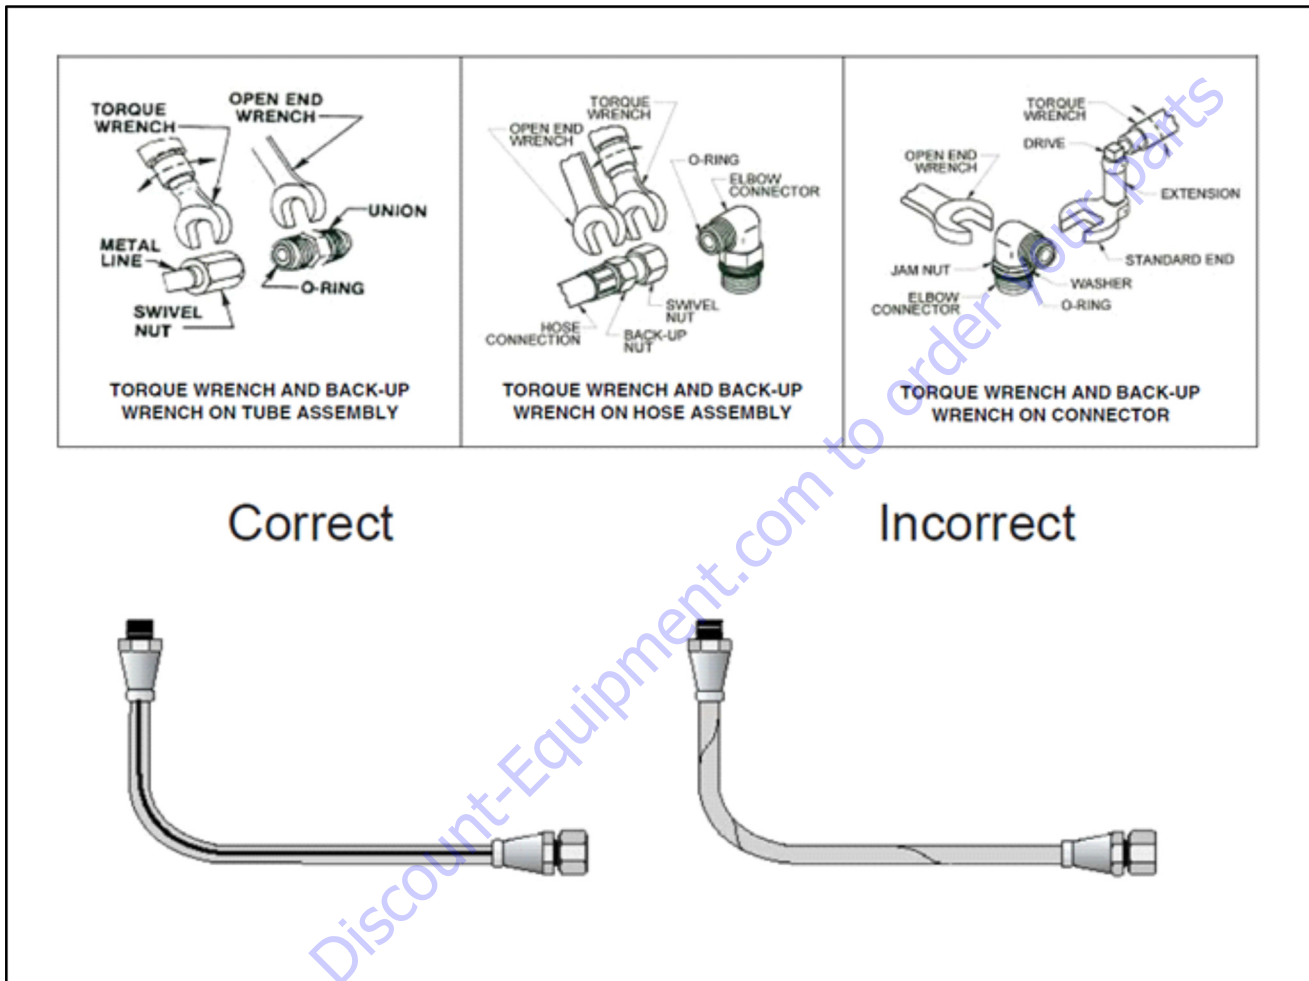

Figure 4-11. Double Wrench Method
the 'layline' printed on the hose is a good indicator of proper hose installation. A twisted lay-line usually indicates the hose is twisted. See Figure 4-11. for double wrench method requirements.
3. Use the double wrench method per Appendix A, turn the swivel nut to tighten as shown in Figure 4-11. The nut is to be rotated clockwise the number of hex flats as defined by the applicable Table in Section 5.0.